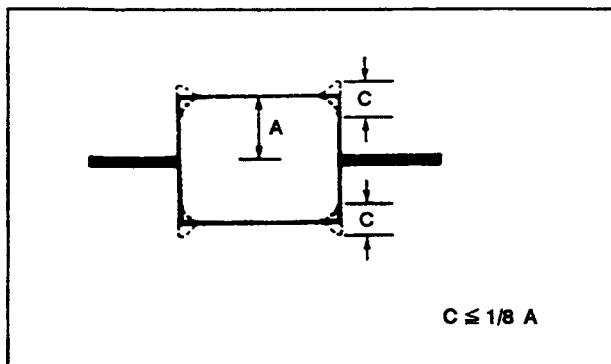

Fig. 45
- 3) Confirm that no large fluctuations occur on the waveform (Fig. 45).